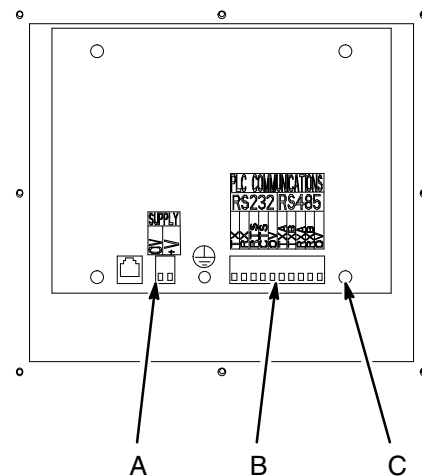

Fig. 11.1
2. Disconnect the power (A) and communications (B) connectors from the back of the User Interface. See Fig. 11.1.
3. Remove the four screws (C) from the back cover of the User Interface.
5. Reconnect the power supply connector (A). Read the previous **WARNING, ELECTRIC SHOCK HAZARD**, before proceeding.
7. Disconnect the power connector (A).
8. Carefully put the back cover in place and secure it with the screws (C).
9. Reconnect the power (A) and communications (B) connectors.